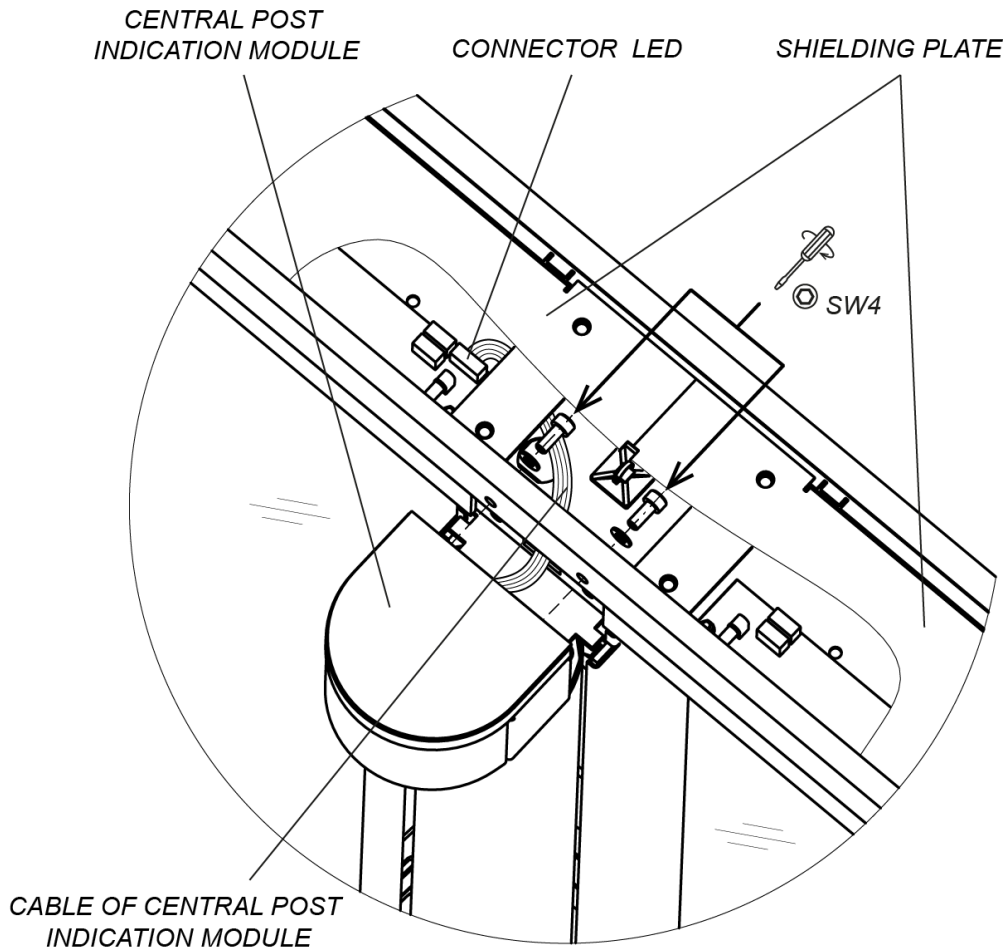
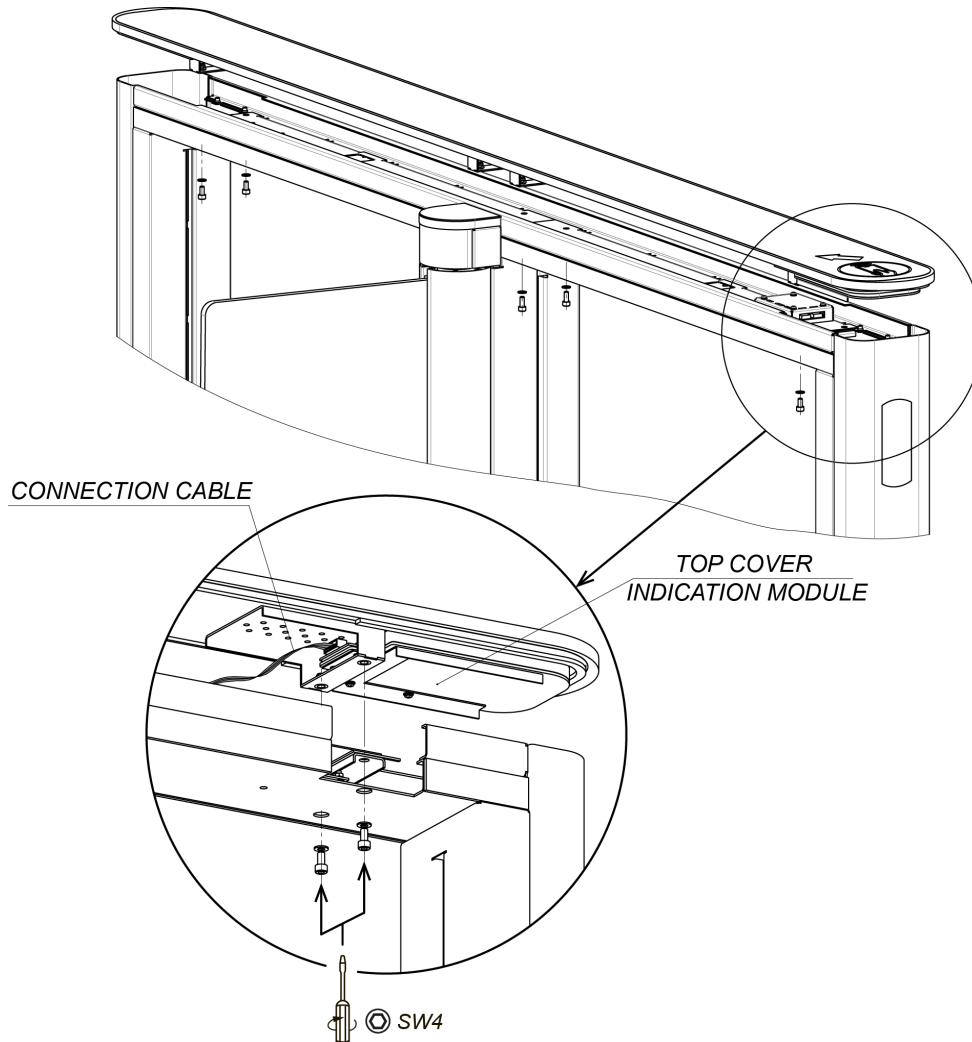

Figure 24. Central post indication block installation
Figure 25. Installation of the *STC-01G (SDC-01G)* section top cover
In order to install the central post indication block (3), proceed as follows (Fig. 24):
3. Install the indication block on the surface, located above the rotating support of swing panel and using an SW4 Allen wrench fix it on the post top duct (12), using two M5×12 screws with washers from the delivery set.
Remove the central post indication block in a reverse order. Disassemble the section top cover (10) and two shielding plates prior to removal (Sect. 8.9.6, Fig. 24, Fig. 25).
Installation order of the **STC-01G (SDC-01G)** and **STC-01S (SDC-01S)** section top covers (see Fig. 25):